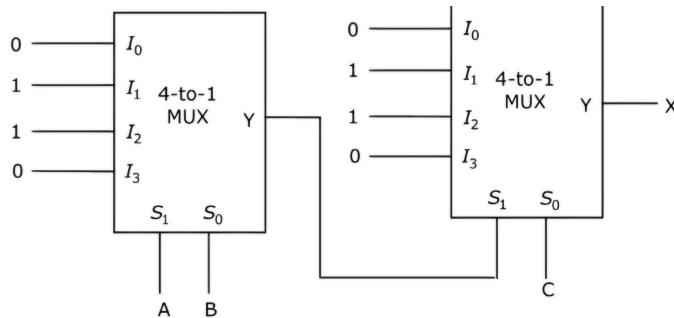

Fig. 4.22
46. Find  $X$  in the following circuit in Fig. 4.22